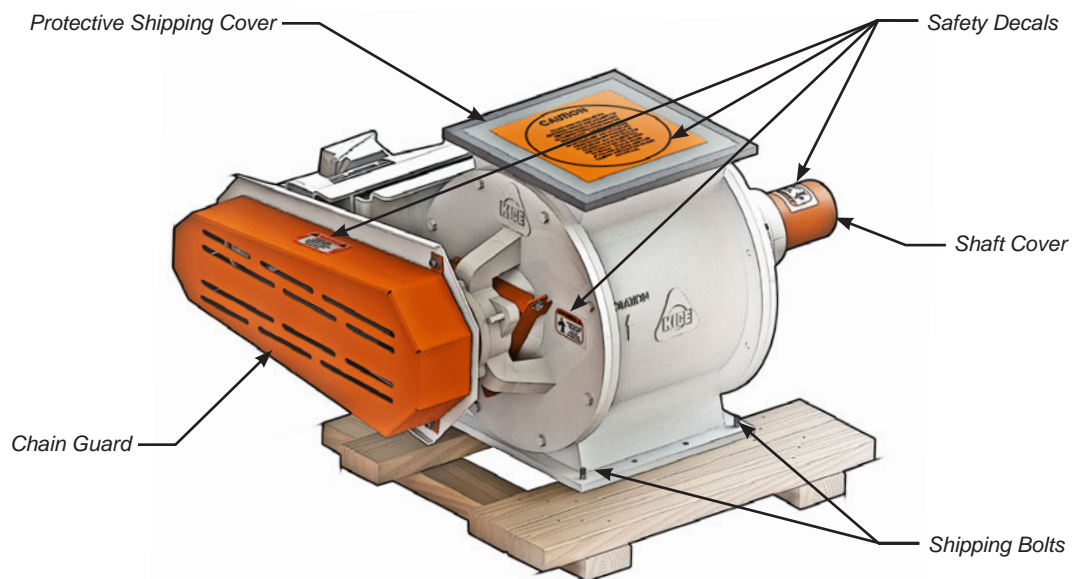

FIGURE 3
- Remove the shaft cover located on the non-drive end of the shaft and the chain guard (Figure 3).
- Remove shipping bolts securing airlock to the shipping pallet (Figure 3)
- Locate and read all safety decals (Figure 3)
- Remove the protective shipping cover (Figure 3)